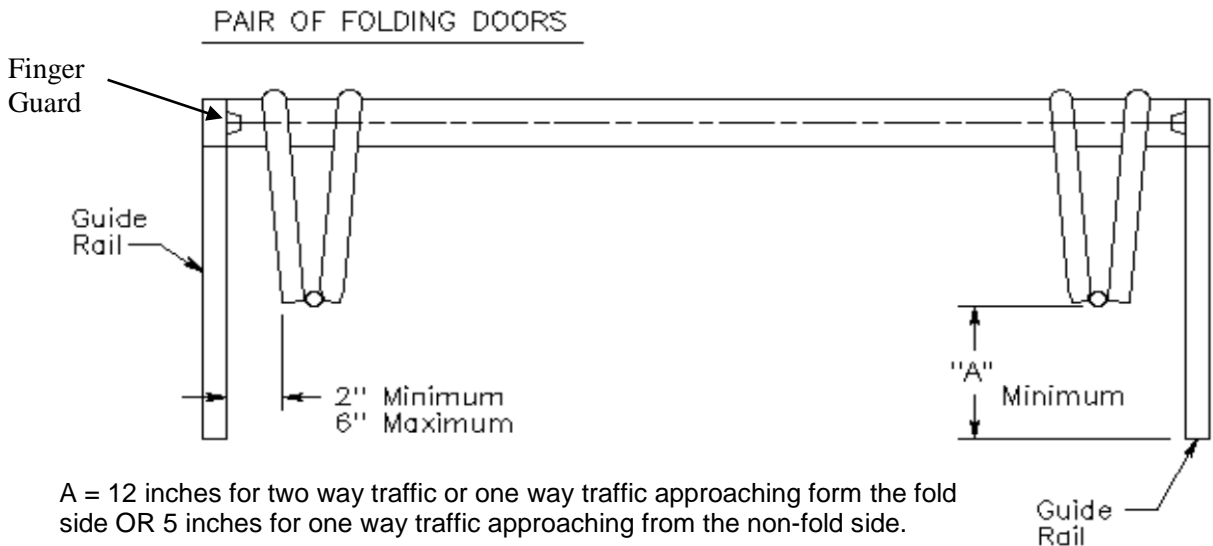

Figure 9
8. Finger Guard. Inspect finger guard to see that it is secure and in good repair. (See Figure 9)